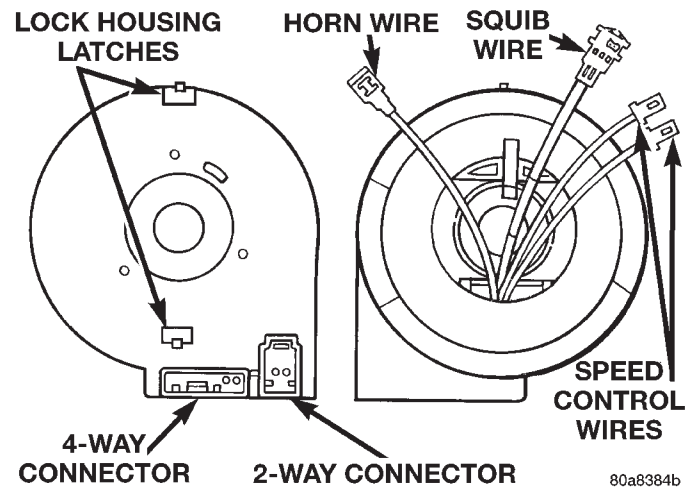

Fig. 5 Clockspring
dures. Carefully feed all wires through the steering wheel armature to avoid damaging wires. When replacing a deployed Driver Airbag Module, a new clockspring must be installed (Fig. 5).
- (1) Adjust the steering wheel so that the tires are in a straight ahead position.
- (2) Ensure that the clockspring is centered by using the yellow indicator in the centering window. Refer to Clockspring Centering Procedure.
- (3) Locate the clockspring on the lock housing and gently push into place. Connect the natural 3-way and the yellow 2-way connectors to the back side of the clockspring.
- (4) Install the multi-function switch and tighten to 1.5 to 2.5 N·m (14 to 22 in. lbs.) torque.
- (5) Install the steering column shrouds and tighten to 1.7 to 2.3 N·m (15 to 20 in. lbs.) torque.
- (6) Carefully route the wires through the hole in the steering wheel armature. Install steering wheel and Tighten to 61 N·m (45 ft. lbs.) torque.
- (7) Route the speed control wires under the horn mechanism and through the speed control switch pockets. Connect speed control wires to switches and install switches. Tighten bolts to 0.7 to 2.7 N·m (6 to 24 in. lbs.) torque.
- (8) Connect the horn wire.
- (9) Connect the yellow airbag lead to the airbag module and push secondary latch into place (Fig. 5). Check that the wires do not get pinched during installation.